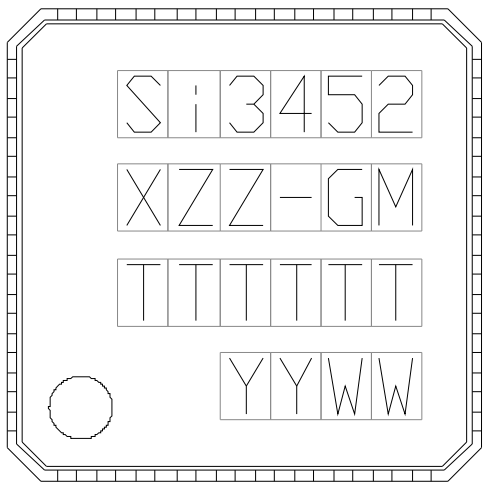

Figure 9. Device Marking Diagram
- Updated Figure 9, “Device Marking Diagram,” on page 34.